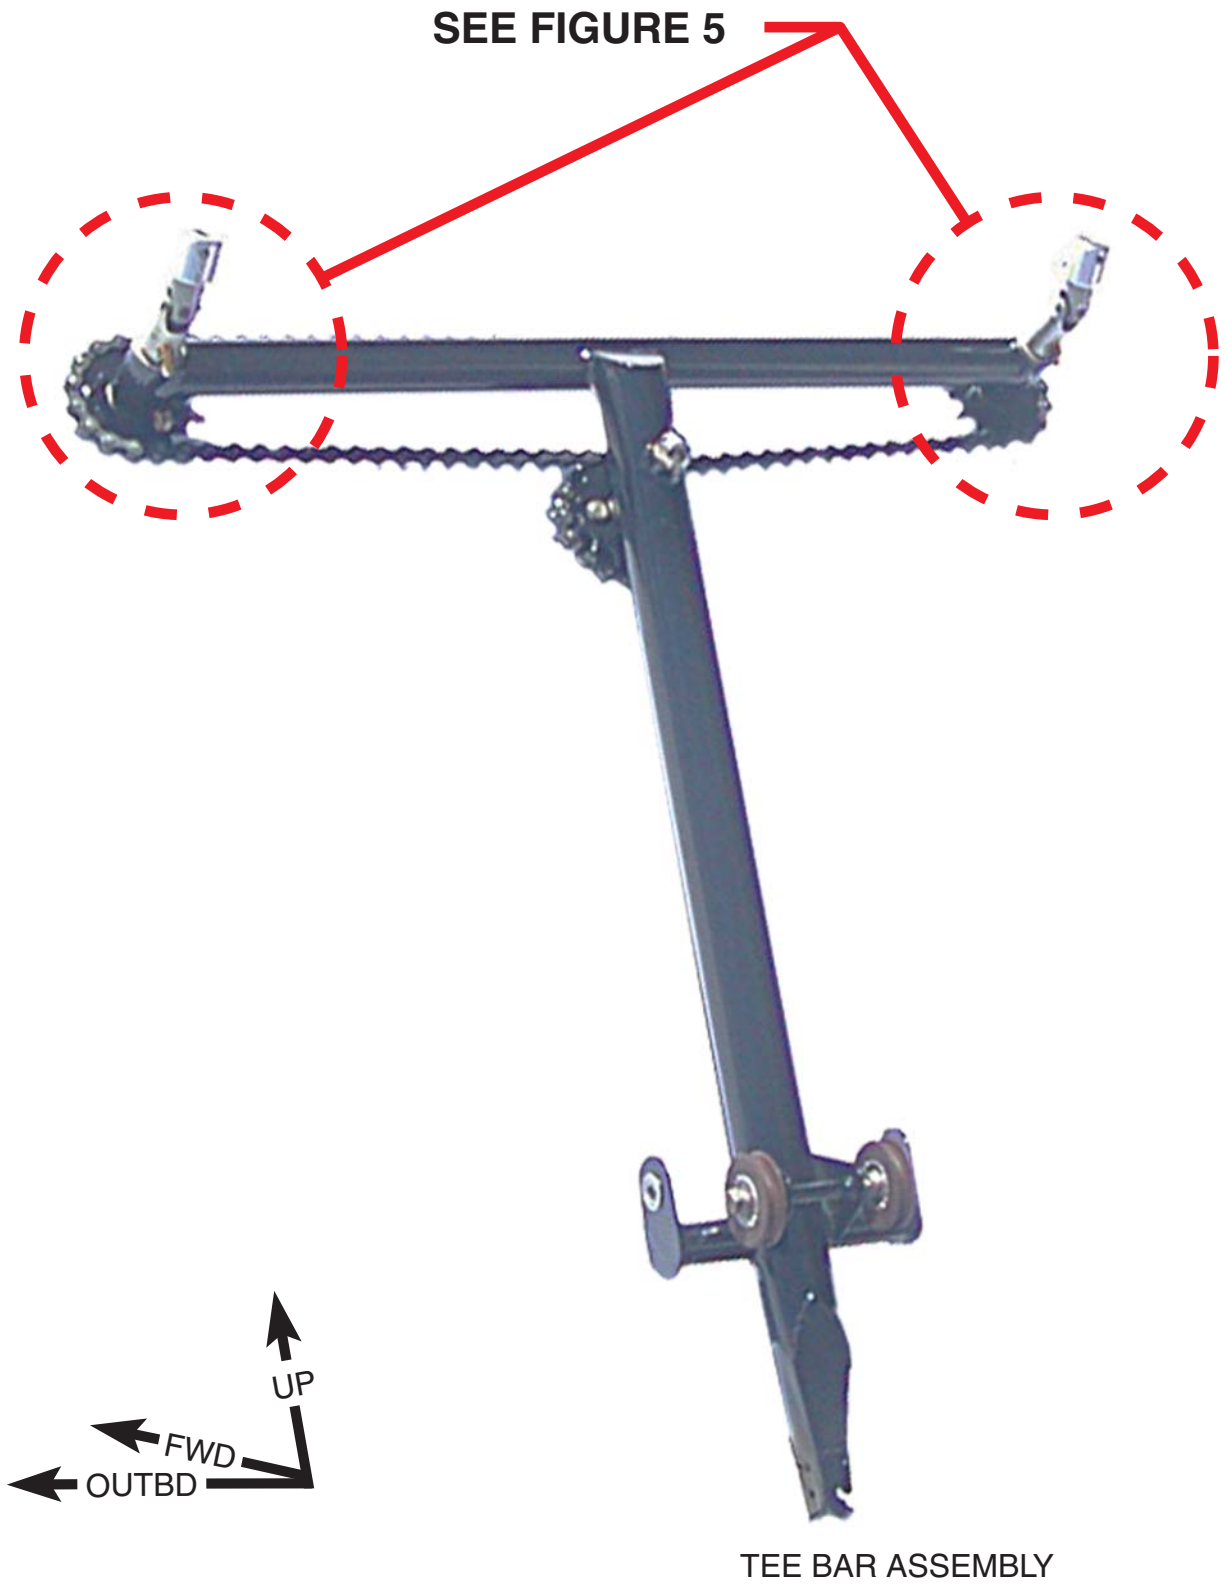

Figure 4
- 2) Temporarily remove the taper pin (or bolt, as applicable). See Figures 4 and 5, Views A and B.